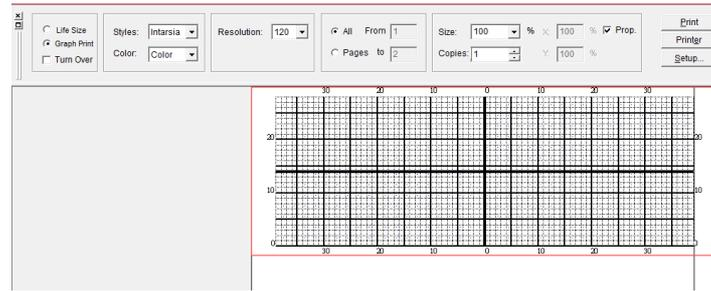

Figure 6-37 Graph Print dialog box
2. Graph Print: Print knit graphics with graph effect (grid line), available settings are shown on Figure 6-37: